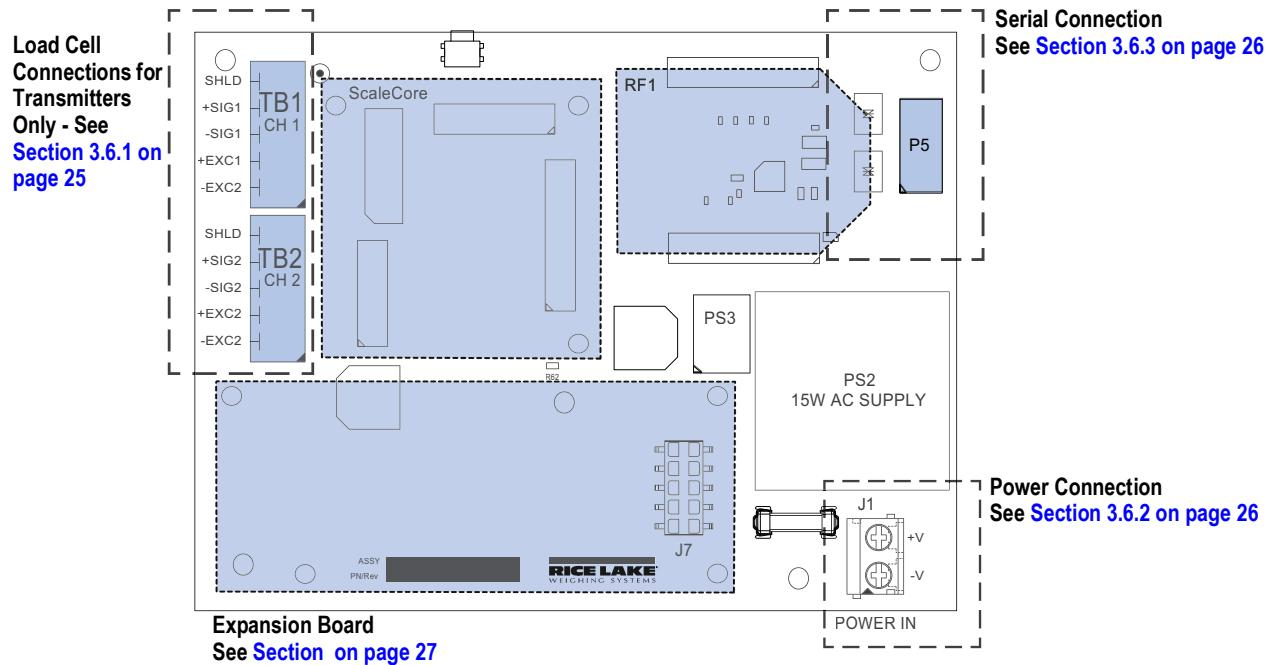

Figure 3-4. Connectors
- Comm port 1, P5 (Figure 3-4 on page 24) is directly wired to the external Turck® serial connector. Comm port 1 is used for software updates, connecting to a remote display and for connecting to an RS-232 device.